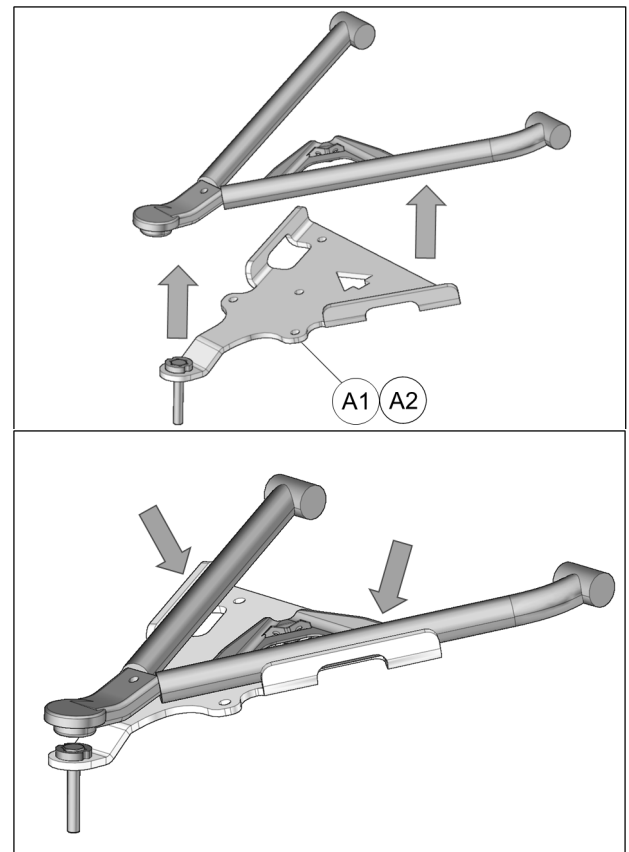

Fig. 15
6. Position bottom part (A1-A2) of anchor bracket kit under the front suspension's lower a-arm. The opening of the suspension anchor bracket must be correctly located on the suspension a-arm tubing. See Fig. 15